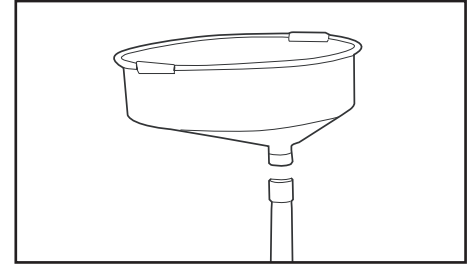

Fig. 4
- b. Insert the funnel into the swivel fitting on top of the drain tube. **(See Fig. 4)**